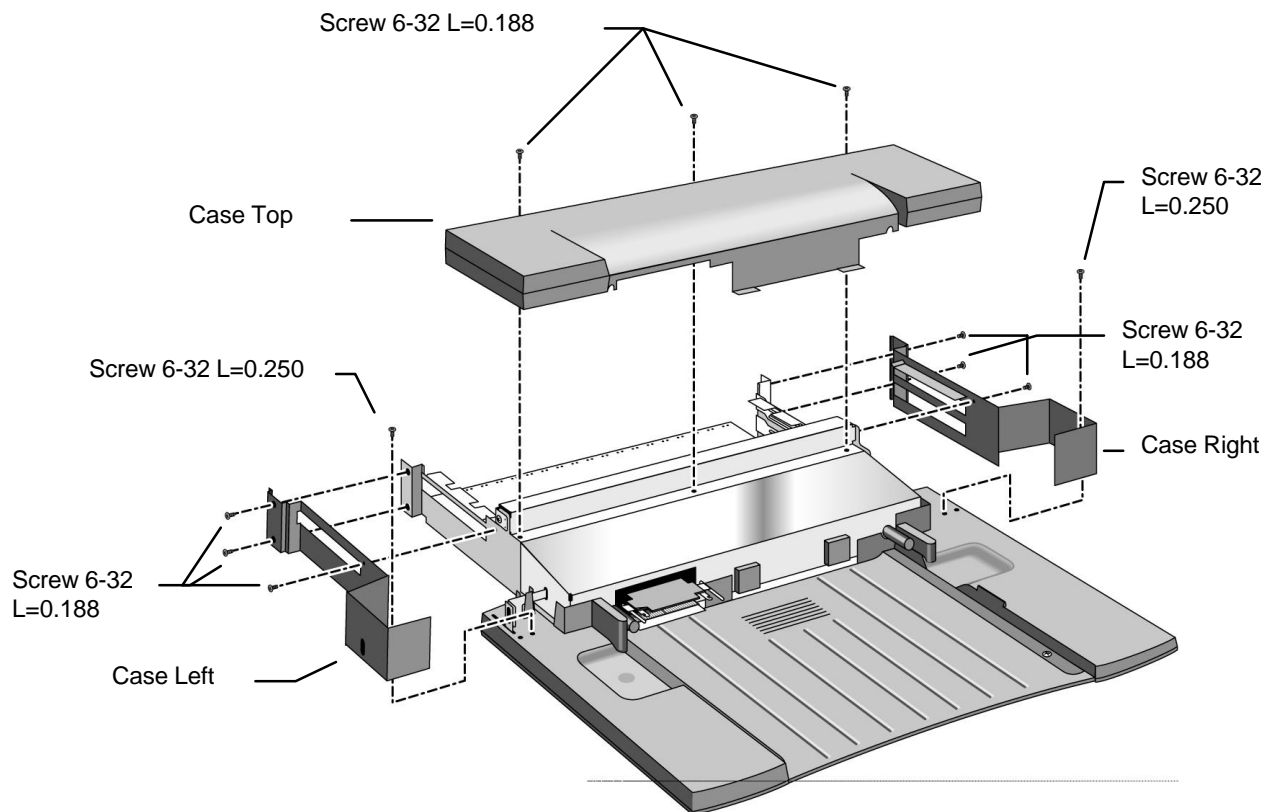

Figure 2 - Case Top, Case Right, and Case Left
1. Remove the three screws depicted in Figure 2.
1. Remove the four screws for the Case Right and Case Left as depicted in Figure 2.